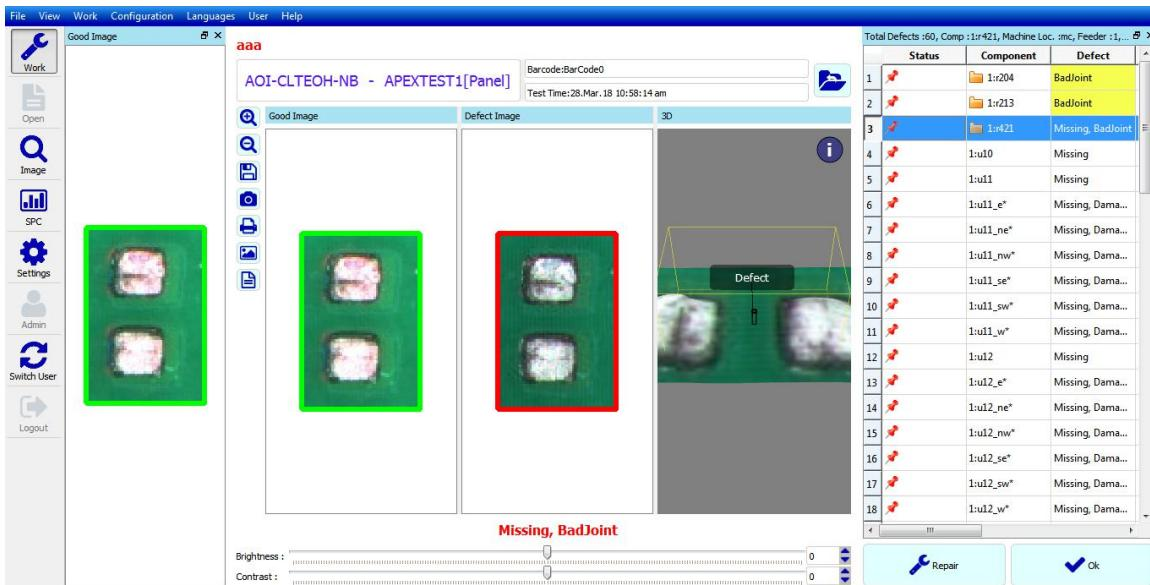

Figure 43: PLR style 2
- Style 2: Hide the panel view, panel zoom view and good image view. Figure 43 is the sample screen shot for style 2.